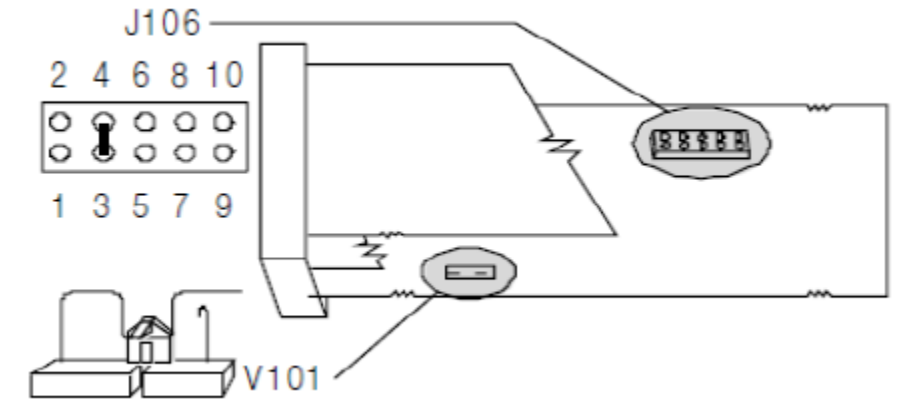

Figure 61 Barber Colman V101 Switch, Gas
Step 2: Open the V101 switch as shown in Figure 61.
Step 8: Close the V101 switch as shown in Figure 61.